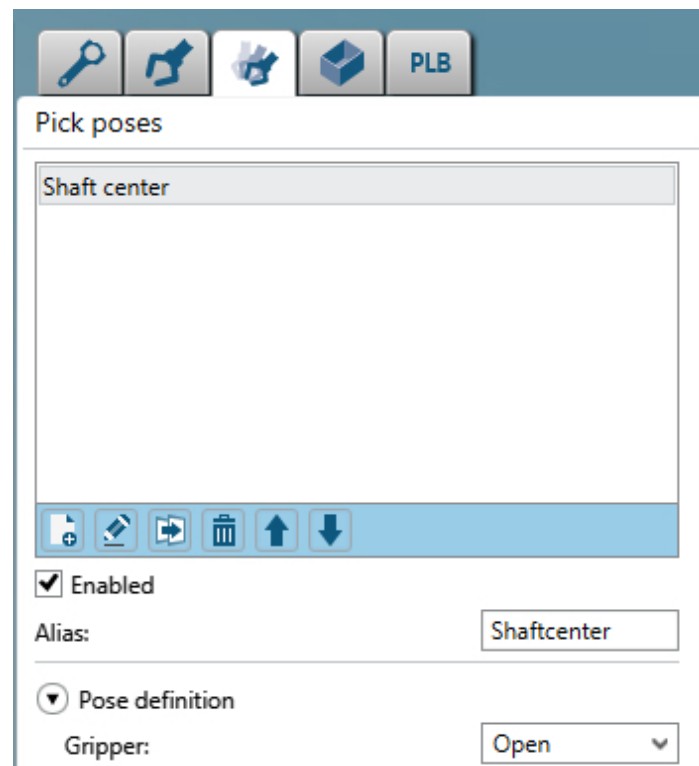

Figure 66: Configuring pick poses
3. Click **Create new pick pose**  and assign a name for the new pick pose, then choose one of the previously configured grippers from the drop-down list (see figure 66).